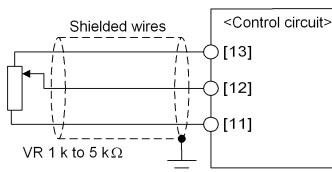

Figure 2.13 Connection of Shielded Wire
- Since weak analog signals are handled, these signals are especially susceptible to the external noise effects. Route the wiring as short as possible (within 20 m) and use shielded wires. In principle, ground the shielding layer of the shielded wires; if effects of external inductive noises are considerable, connection to terminal [11] may be effective. As shown in Figure 2.13, ground the single end of the shield to enhance the shielding effect.